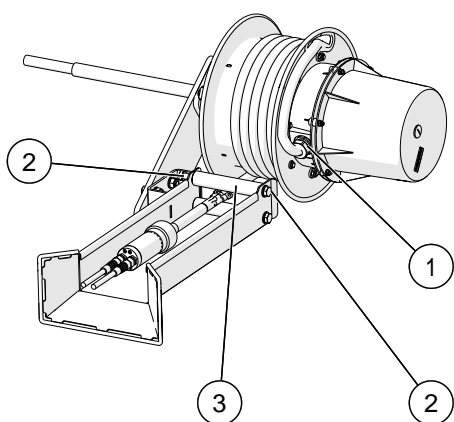

Fig. 10 Remove the guide rollers
- Loose screws (2) and remove the upper guide roller (3)
- Guide the new cable through the slot in the outer round plate and the cable collar (1) into the bottom part of the hub (SRA).
- Connect the reel cable to the current collectors of the slip ring assembly (SRA) (see Fig. 10).